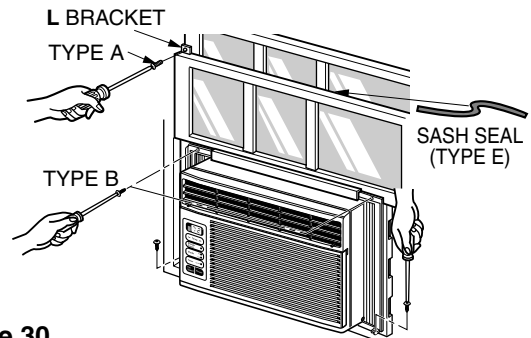

Figure 30
Extend the guide panels (TYPE F) to fill the window opening using 4 screws (TYPE B) to secure them, as shown in Figure. 30.
- a. Cut the sash seal (TYPE E) to the window width. Stuff the sash seal between the glass and the window to prevent air and insects from getting into the room, as shown in Figure. 30.
- b. Fasten the L bracket using a (TYPE A) screw, as shown in Figure. 30.